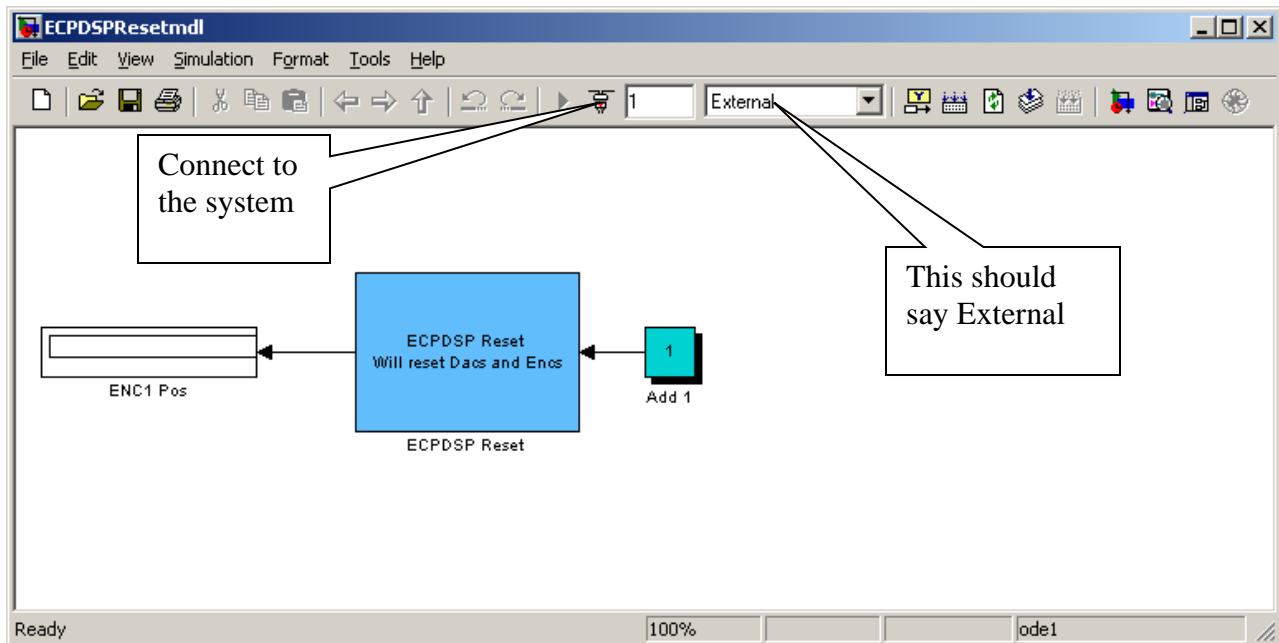
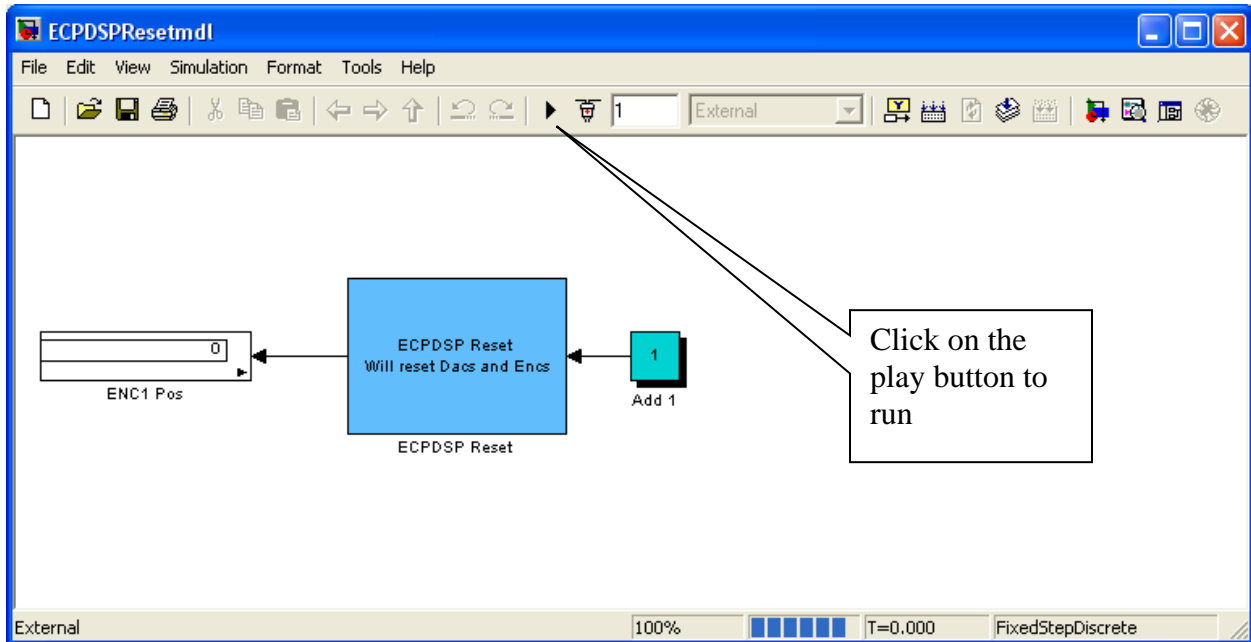

Figure 4: Connecting to the ECP system
Figure 5: Running the ECP system
9. **Connect** to the system as shown in Figure 4 and run the system by clicking **play** as shown in Figure 5.